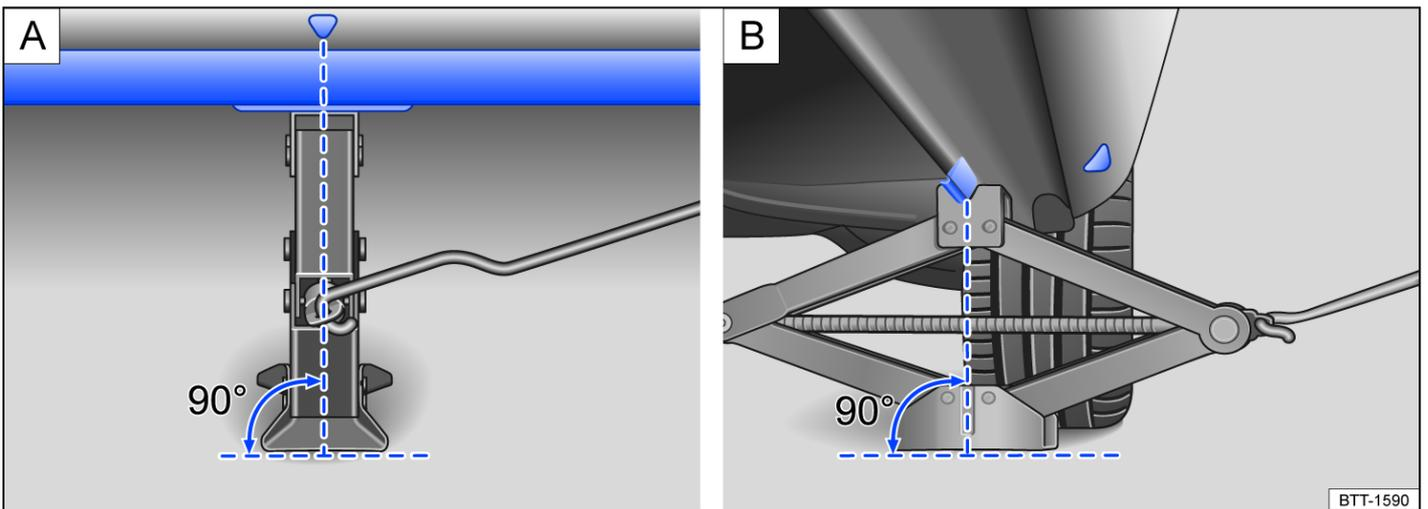

Fig. 2 Jack applied at the rear left-hand side of the vehicle.
8. Ensure that the entire surface of the foot of the jack is resting securely on the ground, and that the foot of the jack is positioned fully underneath the point of application → Fig. 2 **A** and **B**.
9. Position the jack and simultaneously continue to crank the claw up until it is in position around the jacking point underneath the vehicle → Fig. 2.
- Fit the jack only at the points described. The vehicle jack claw must grip the vertical rib under the side member securely → *Fig. 2*.